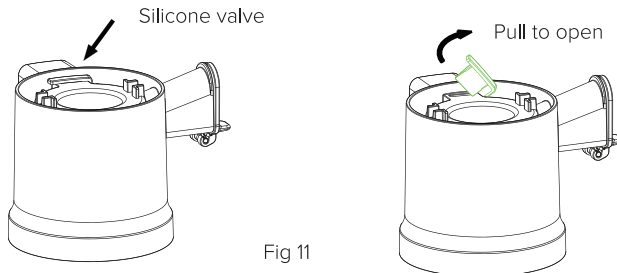

Fig 11
3. If there are any residues remaining in the mouth of the pulp spout, please pull out the silicone valve as shown in (Fig 11) below and clean it under running water.